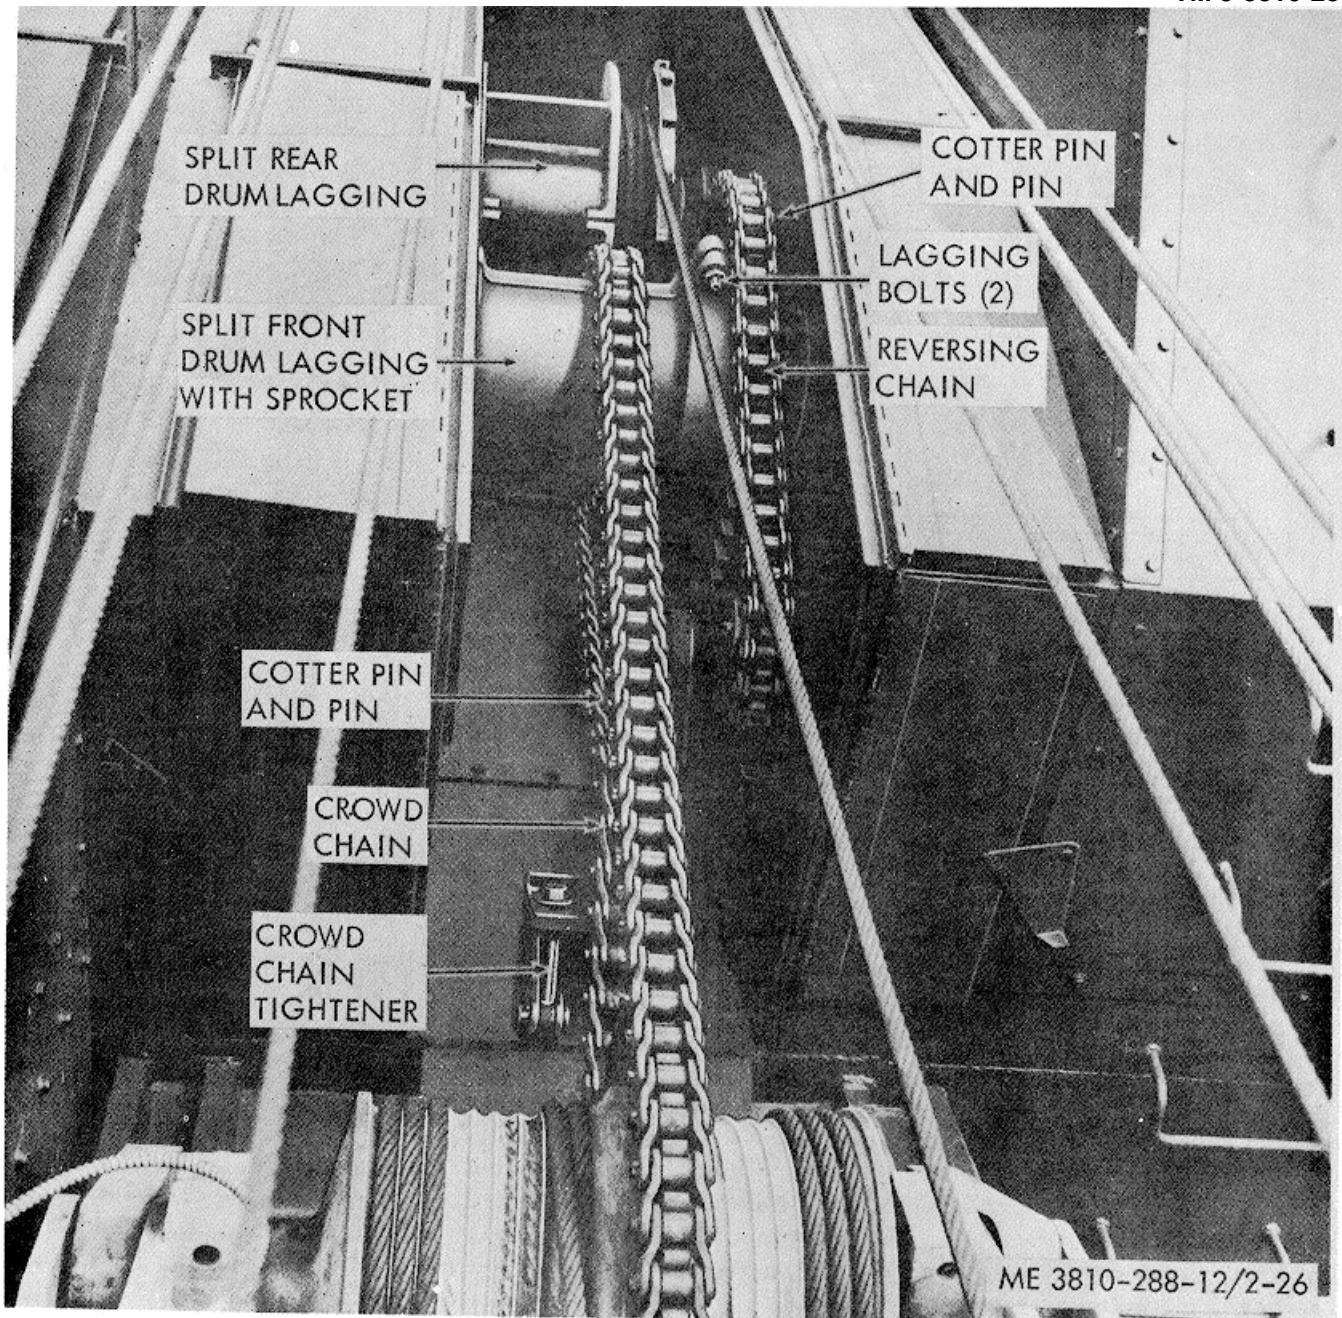

Figure 2-26. Shovel drum laggings.
a. *General.* The truck crane may be converted to shovel operation by installing the shovel attachment. The following components are necessary for the equipment conversion; the shovel boom, saddle block, dipper stick, dipper, boom foot roller assembly, crowd chain tightener and crowd chain, special shovel front and rear drum laggings which are illustrated in figure 2-26.
(2) Install the split rear drum lagging on the rear drum as shown on figure 2-26.
(3) Insert the end of the cable through the cable dead-end socket, loop it and insert the end of the cable back into the socket, taking care that the end does not protrude all the way through. Insert the cable wedge into the socket and pull the cable tight around it.
(4) Reeve the remaining free end of the cable around the padlock sheave on the shovel,
- STEP 1. REFER TO PARAGRAPH-2-5 AND UNREEVE THE CABLES FROM FRONT AND REAR DRUMS. REFER TO FIGURE 2-26 AND REMOVE COTTER PIN, PIN AND REVERSING CHAIN.
- STEP 2. REMOVE CAPSCREWS (5, FIGURE 2-27) AND LOCKWASHERS (4). REMOVE LAGGING BOLTS (FIGURE 2-26).
- STEP 3. REMOVE ROPE LAGGING FROM THE FRONT DRUM, AND REMOVE REVERSING SPROCKET HALVES (3) FROM THE LAGGING HALVES BY REMOVING CAPSCREWS (1) AND LOCKWASHERS (2).
- STEP 4. INSTALL REVERSING SPROCKET HALVES (3) ON CROWD SPROCKET LAGGING HALVES (6) AND INSTALL THE CROWD SPROCKET LAGGING ON THE FRONT DRUM. INSTALL CAPSCREWS (5) AND LOCKWASHERS (4).
- STEP 1. PIN IN PLACE AS SHOWN ON FIGURE 2-26.